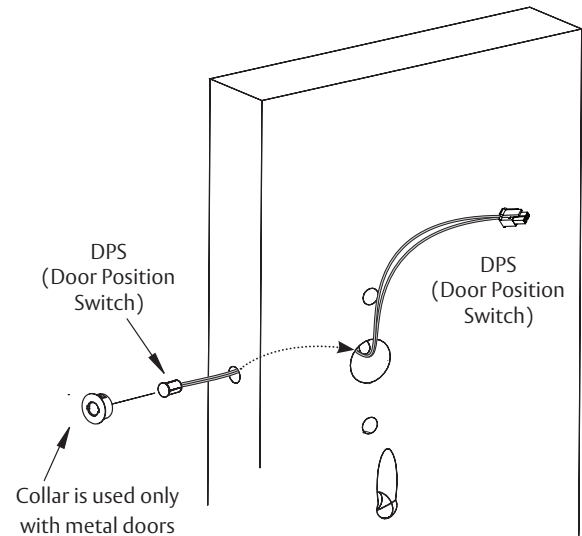

Fig. 3
b. Insert connector end of DPS through raceway on latch edge of door (Fig. 3)